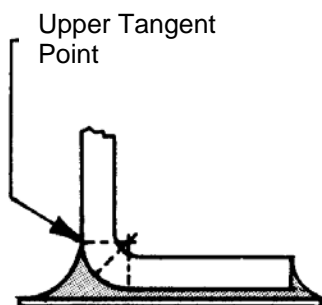

Figure 17
- A. For the lap and "J" leads, the minimum heel fillet shall be to the upper tangent point of the heel bend, Figure 17 and 18.